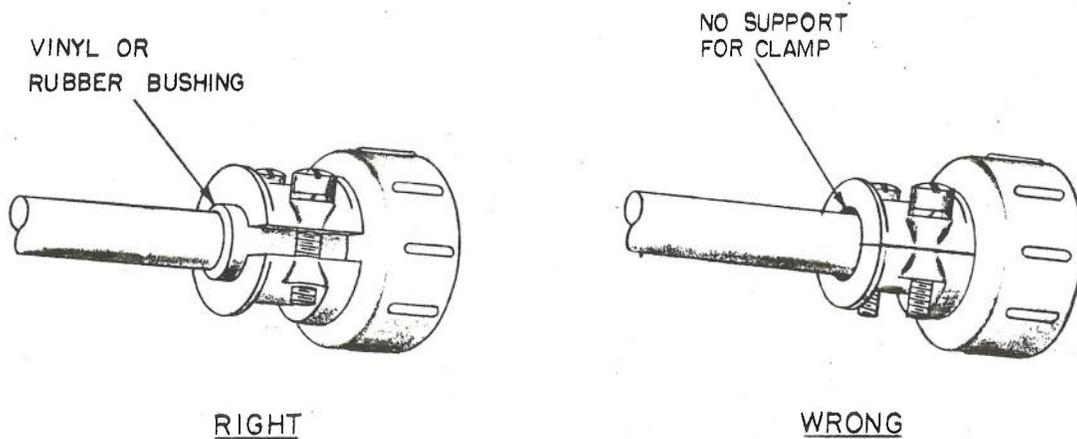

Figure 5-54. Use of Cable Clamp An 3057
d. CLAMP FOR UNARMORED CABLES. - Cable clamp AN 3057 may be used to obtain a firm grip on unarmored cables or conductor groupings of small diameter. The cable or grouping should be centered in the jaws of the clamp. A vinyl or rubber bushing or sleeve may be used for this purpose (Figure 5-54). For applications where the cable is subject to considerable flexing, the